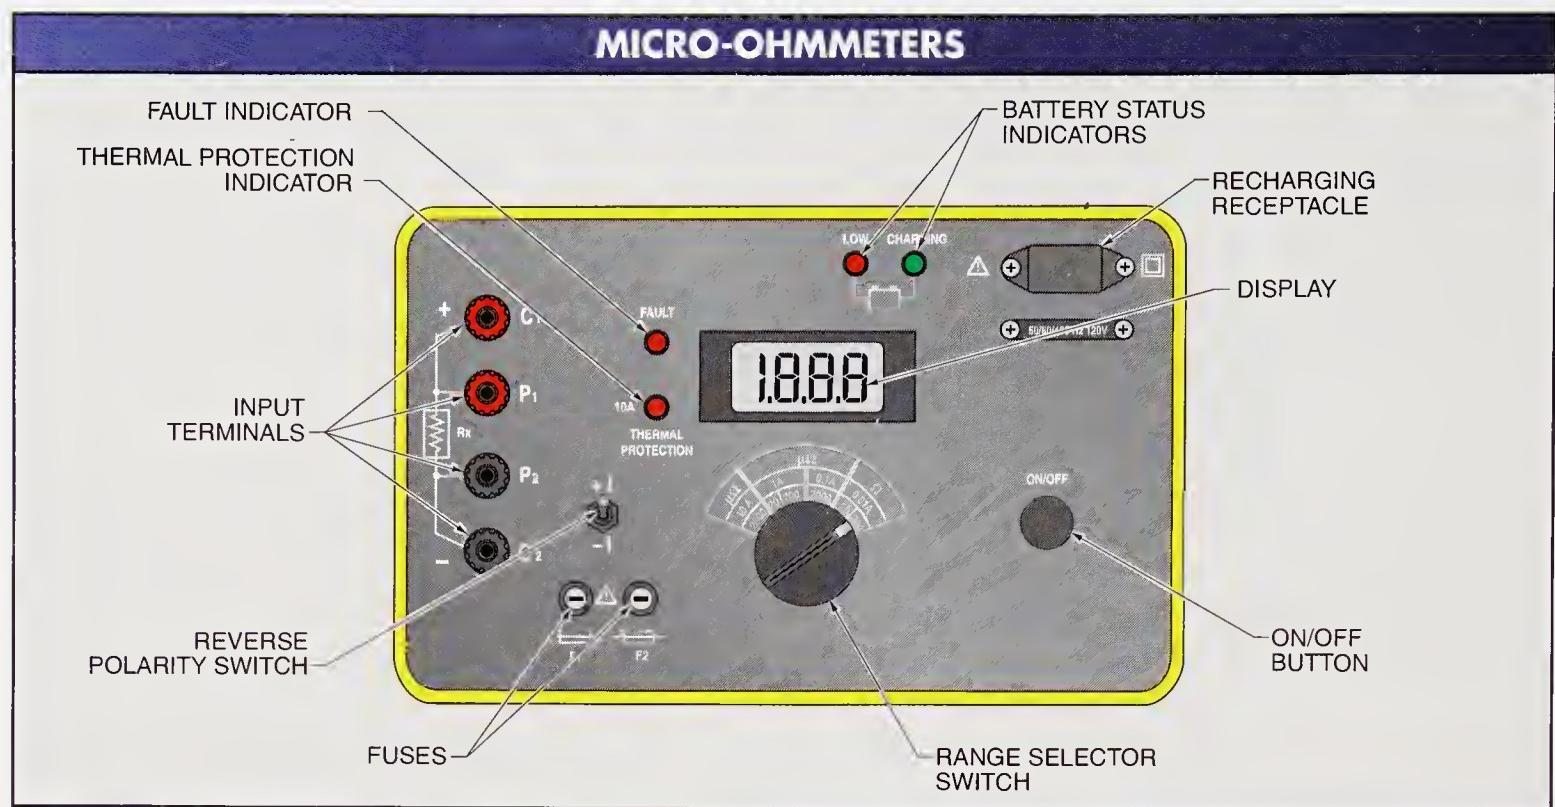

Figure 9-12. Micro-ohmmeters are highly sensitive ohmmeters that measure very low resistances in microhms.
Resistance (R) is the opposition to the flow of electrons in a circuit. Most resistance measurements are acceptable when taken with multimeters, but when a high resistance measurement is required, megohmmeters are used. However, when very accurate low resistance measurements are required, micro-ohmmeters are used. A *micro-ohmmeter* is a test instrument that accurately measures resistance using microhms ($\mu\Omega$). See **Figure 9-12**. Some micro-ohmmeter models measure resistance using 0.1 microhms (0.0000001 Ω).